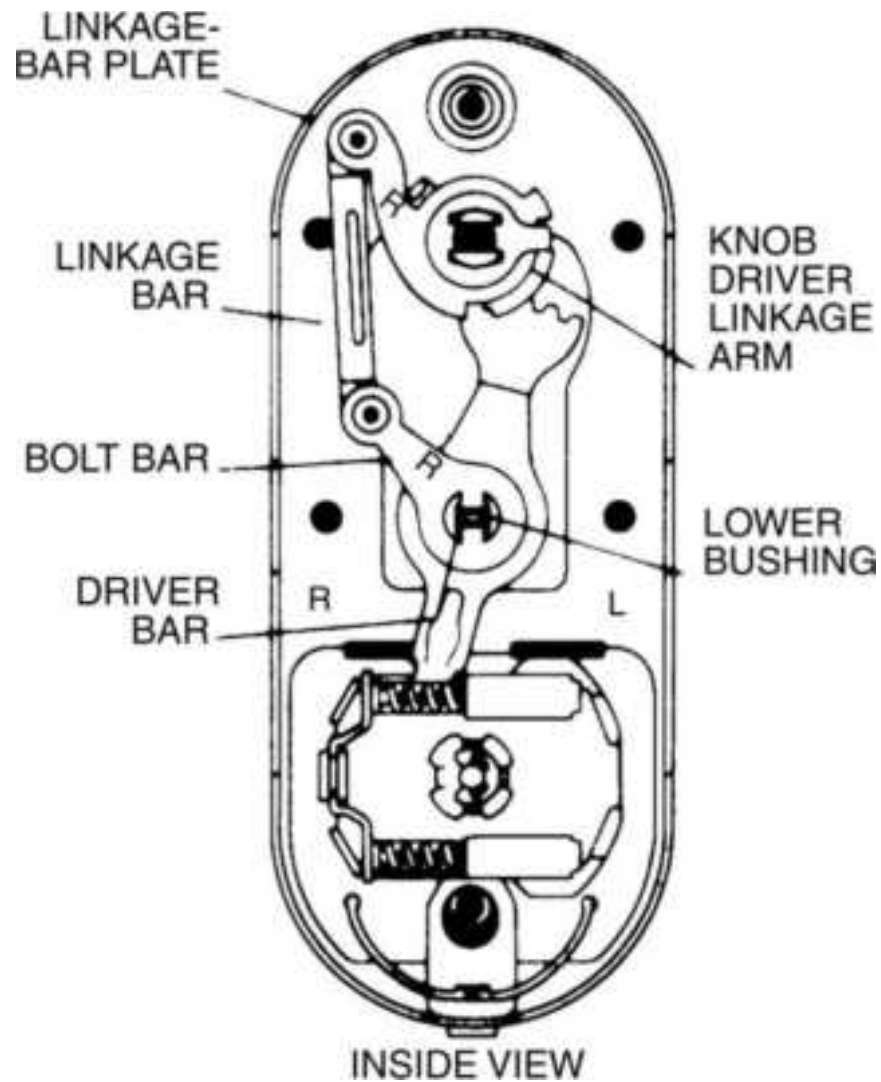

**Figure 13.72** Changing hand, Step 3.
3. Remove the linkage-bar plate, linkage bar, bolt bar, driver bar, knob-driver linkage arm, and lower bushing (Fig. 13.72 ).